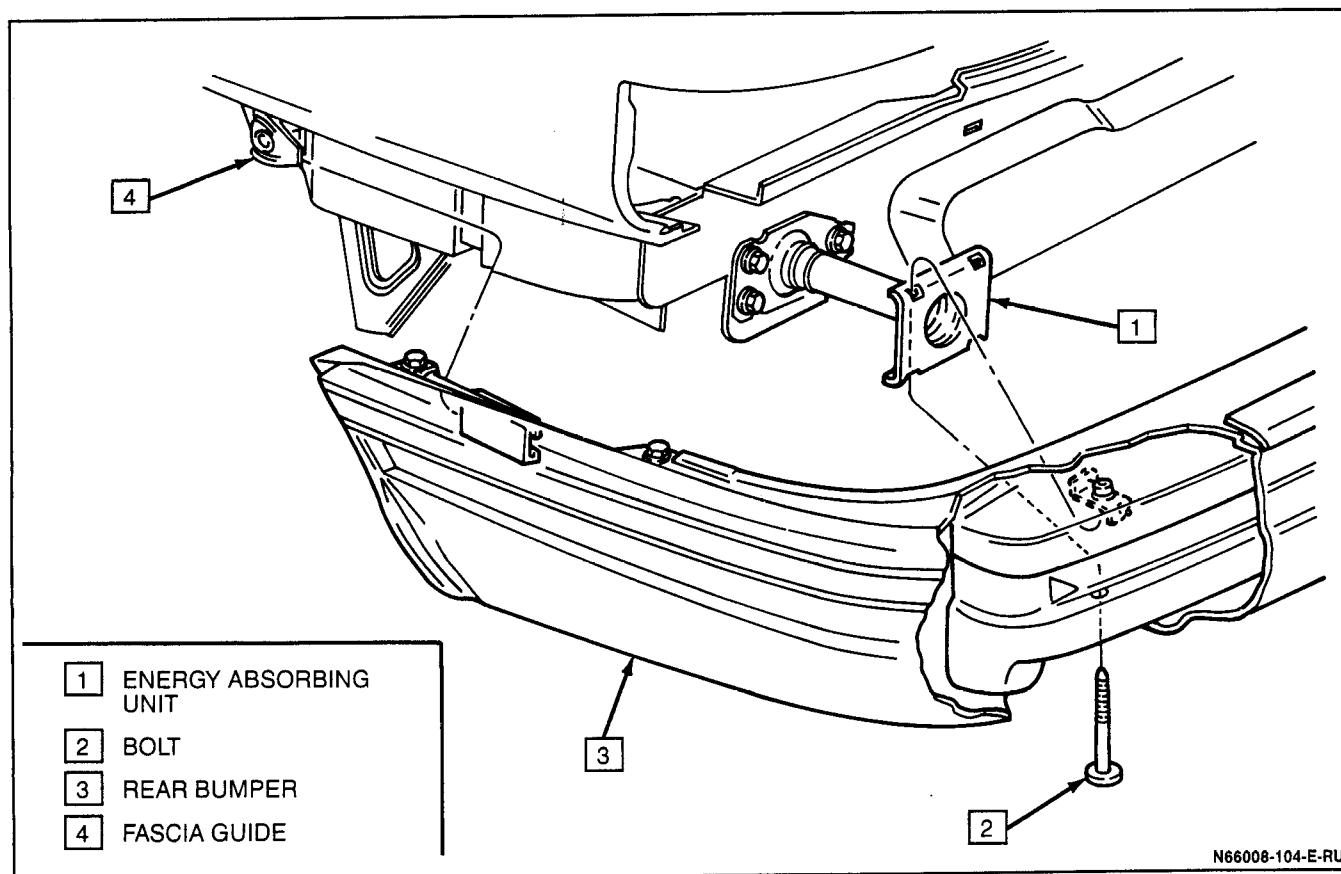

Figure 10-4-9 Rear Bumper Removal and Installation
1. Impact bar (10) to fascia (7).
2. Fascia support bracket (11) to fascia (7) (STS).
3. Side marker lamps (4) and rear reflectors (6).
4. Fascia center molding (3) engaging snap tabs.
5. Two plastic rivets (9) retaining center molding (3).
8. Impact bar (1) to fascia.
**Install or Connect****Figure 10-4-9**